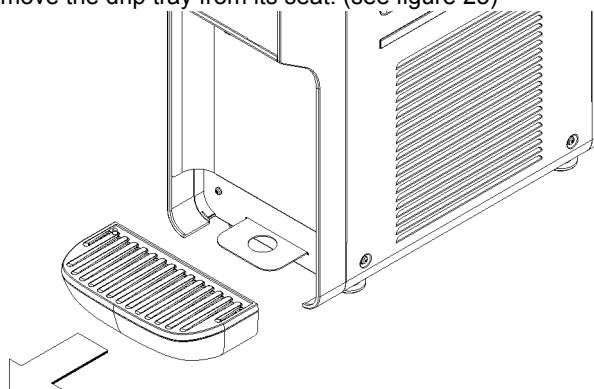

figure 23
- 9** Remove the drip tray from its seat. (see figure 23)